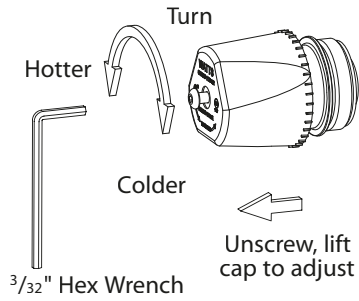

Figure 9.5 - Temperature Adjustment
3. To adjust the setting of the valve, loosen locking cap with hex wrench, see figure 9.5. Cap must be lifted 1/4” to adjust temperature. To increase the temperature, turn